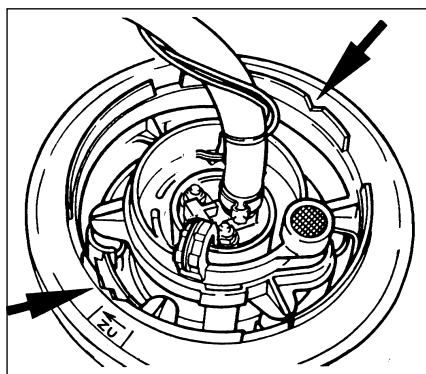

Abb. 3
- Observe the position of the upper part of the ram housing in the tank (keep the V marking in mind, fig. 3).